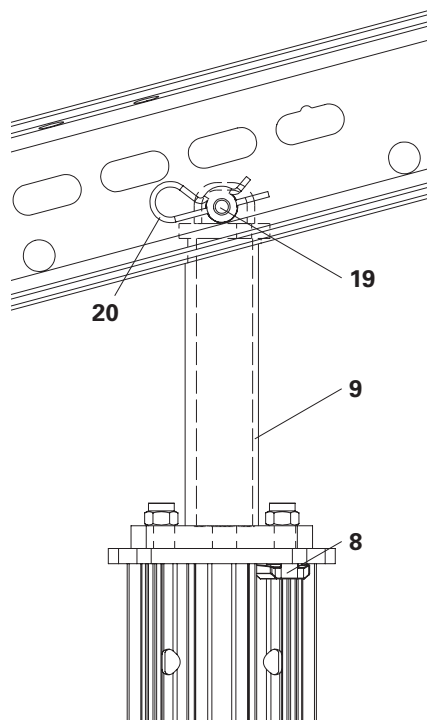
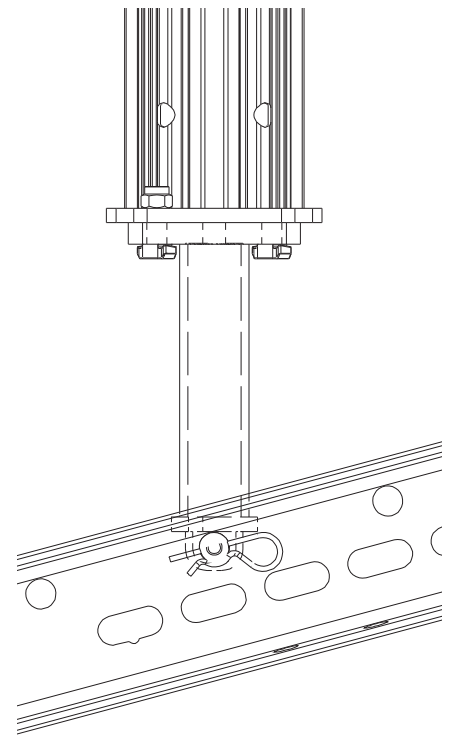

Fig. A2.10
Fig. A2.11
1. Fasten the Compression Brace Head MP/SRU (9) diagonally to the end plate of the MULTIPROP MP (1) using 2x Screw with Nut MP (8). (Fig. A2.10 + Fig. A2.11)
3. Fit the Compression Brace Head MP/SRU (9) to the Steel Waler SRU U120 with Fitting Pin $\varnothing 21 \times 120$ mm (19) and Cotter Pin 4/1 ga (20).